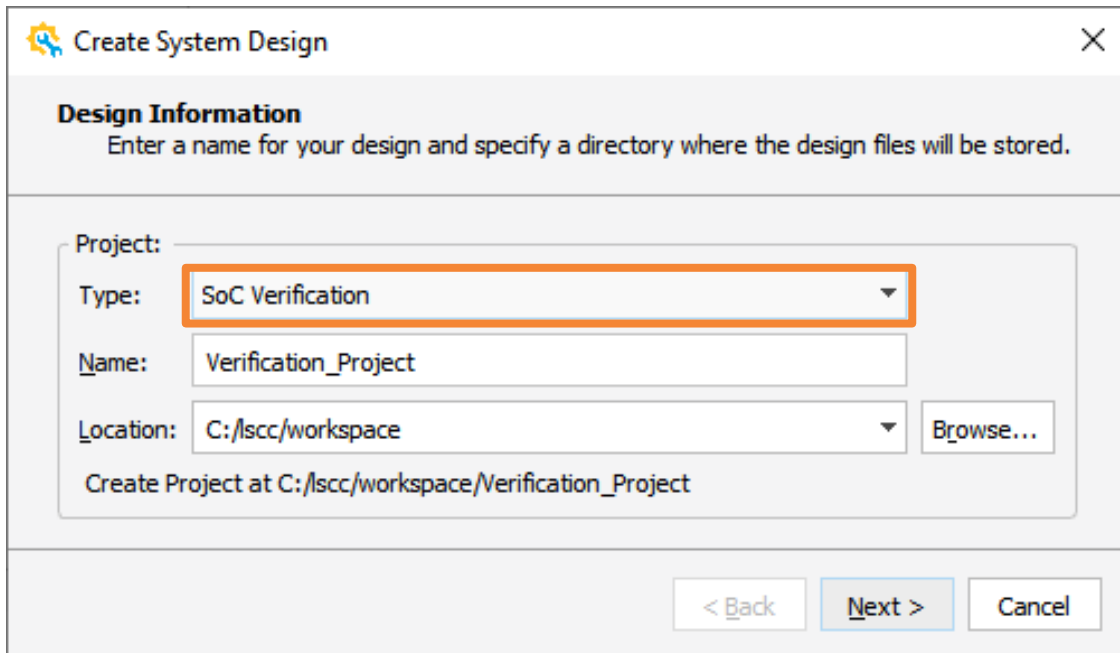

Figure 2.176. Create System Design – Design Information Wizard
1. Choose **File > New Design** from Lattice Propel Builder Menu Bar. The Create System Design wizard opens (Figure 2.176).